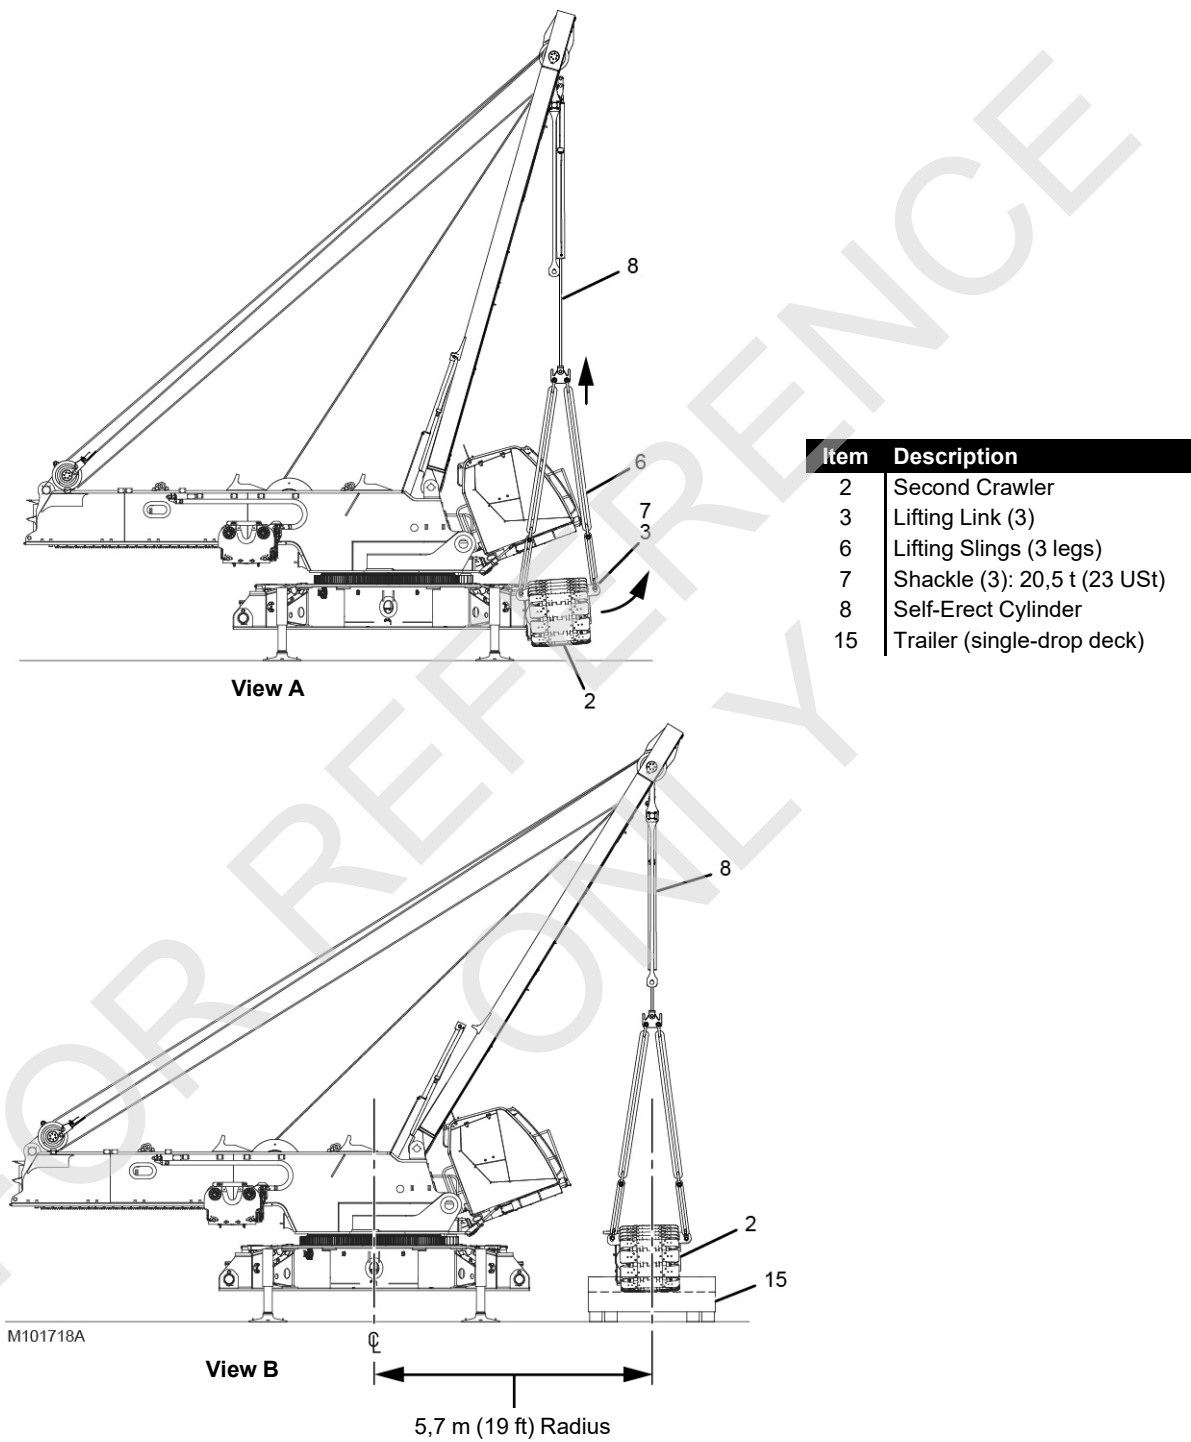

Figure 4-91
- Do not exceed the radius specified in Figure 4-91, View B when lifting the second crawler.
1. Using the remote control, extend the jacking cylinders next to the second crawler (2, View A, Figure 4-91) until the first stage of each cylinder is fully extended.
2. Swing the upperworks and boom up or down as required so the self-erect cylinder (8, View A, Figure 4-91) is centered over the second crawler (2).
4. Connect three legs of the lifting slings (6, View A, Figure 4-91) to the lifting links (3) on the second crawler with the shackles (7).
6. Position the trailer (15, View B, Figure 4-91) on the same side of the crane that the second crawler was removed from.